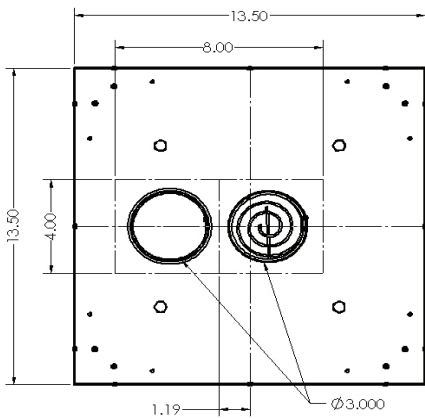

Figure 3
2. Mark the wall where the hole should be cut. (Note: The flex does not mount to the center of the termination. When viewing the back plate of the termination, the hole will be shifted about 1.1875" to the right. **(Fig.3)** Once the hole has been marked, cut the hole in the masonry.